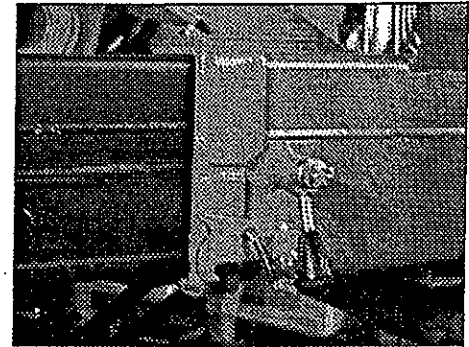

fig. 22
- Carefully extract the outrigger support until the spring loaded security pin locates into its new seat (fig. 22).